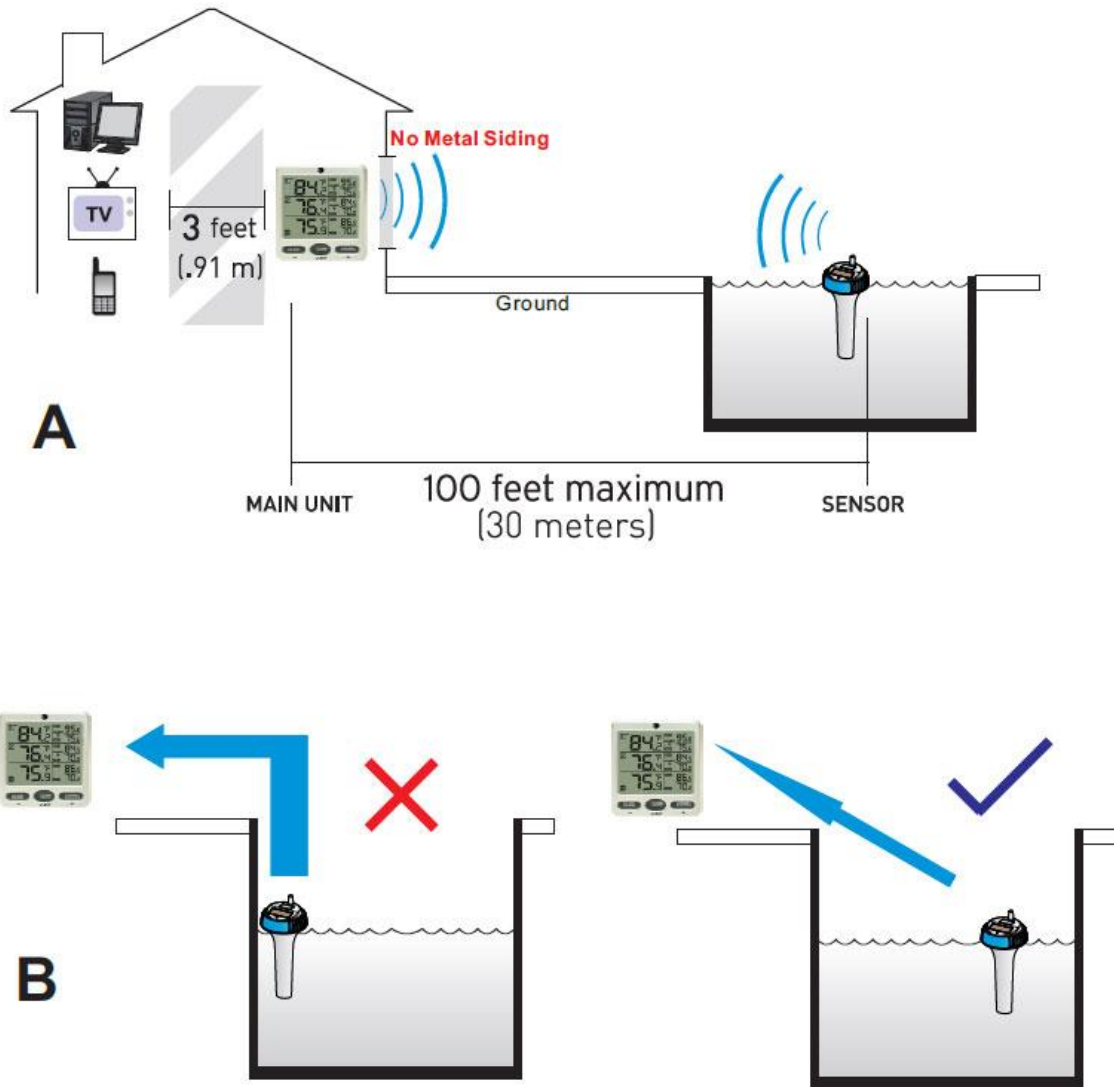

Figure 11
1. Place the sensor in the pool or spa within 100 feet of the display console (Figure 11, reference A). Avoid transmitting through solid earth or ground (Figure 11, reference B). Use a tether (string) to fix the sensor in the pool or spa.